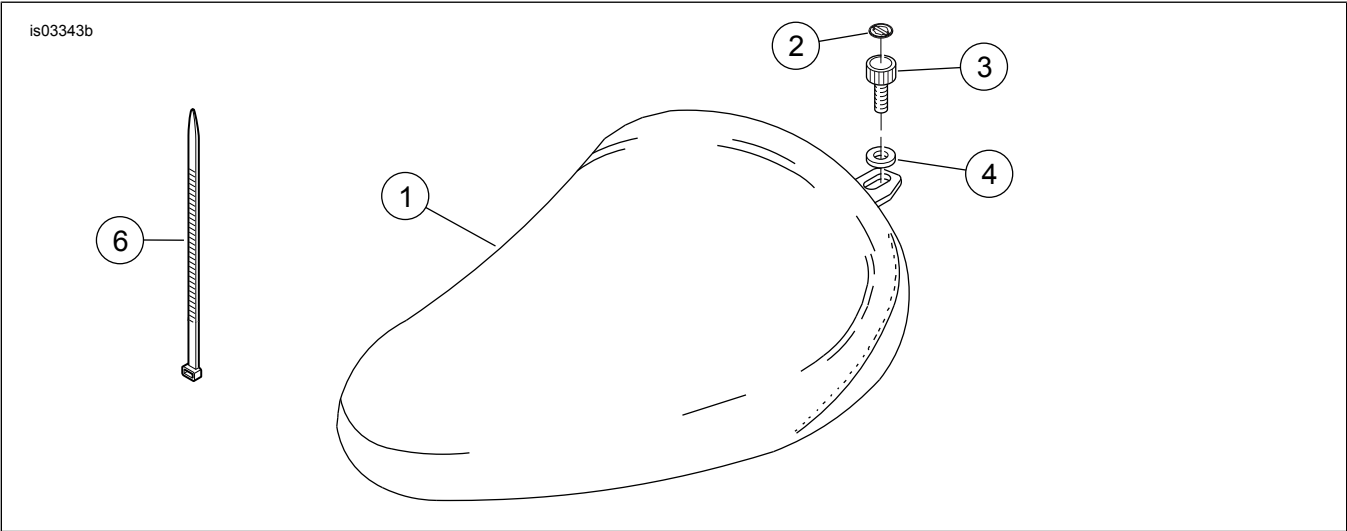

Figure 3. Service Parts for XL Solo Custom Seat Kits
See Figure 3 and Table 1.
5. See Figure 3. Secure the seat to the fender using the knurled knob (3) and nylon washer (4) from the kit. Install the washer on the knob and tighten the knob securely to the fender seat nut.
6. Remove the adhesive backing from the Bar & Shield emblem (2). Install it in the recess in the knob face.